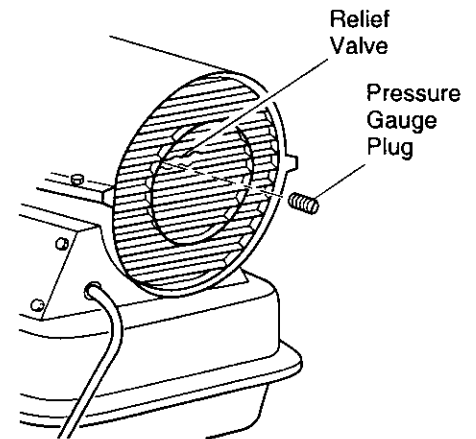

Figure 7 - Pressure Gauge Plug Removal
1. Remove pressure gauge plug from filter end cover (see Figure 7).